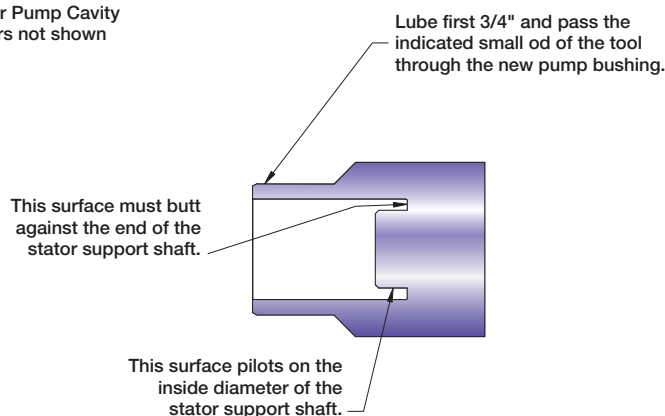

FIGURE 2
3. Place the alignment tool over the stator support shaft. Using a twisting motion, carefully slide the smaller outside diameter of the tool through the new bushing. At the same time, the inner diameter of the stator support shaft must slip around the projecting cylinder on the inside of the alignment tool (see Figure 2).
4. The pump is properly aligned when the pump body is seated flat against the pump backing plate and the alignment tool is seated against the end of the stator support shaft (see Figure 2).